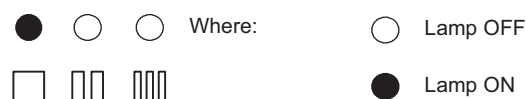

Figure 10.13
- 3 The lamps F should give the indication as in Figure 10.13 (re-ignition frequency). If not, press the reset button repeatedly to obtain it.